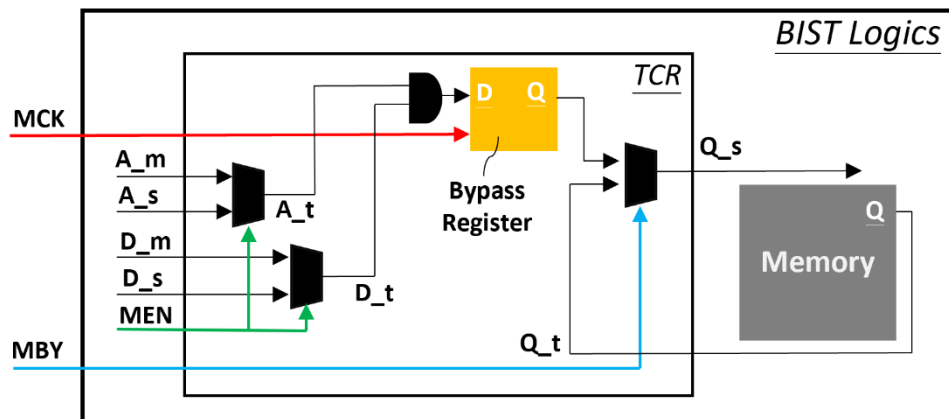

Figure 3-19 Implementation of Bypass Circuit by Register
- Reg: Implement the bypass circuit by register as Figure 3-19